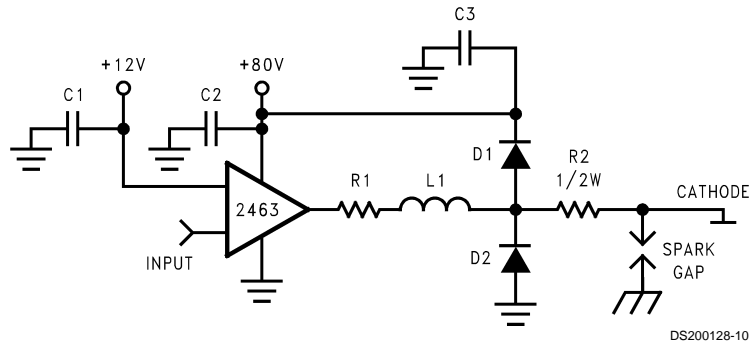
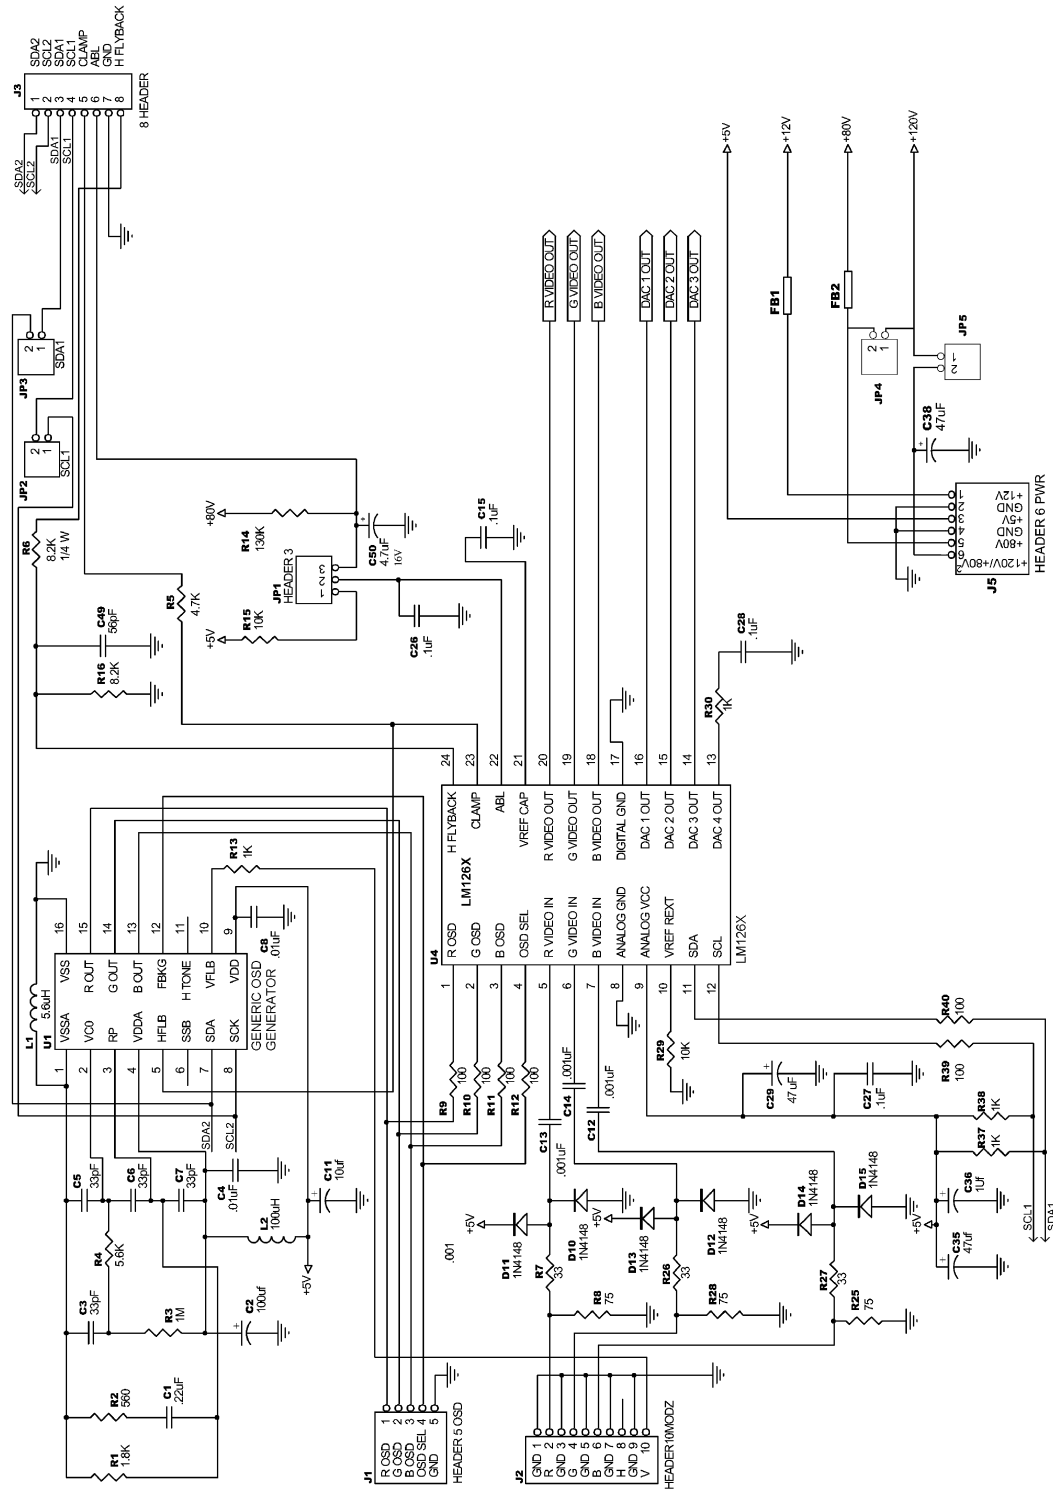

FIGURE 9. One Channel of the LM2463 with the Recommended Arc Protection Circuit
FIGURE 10. LM126X/LM246X Demonstration Board Schematic
voltage, but to a value that is much higher than allowable on the LM2463. This fast, high voltage, high energy pulse can damage the LM2463 output stage. The application circuit shown in *Figure 9* is designed to help clamp the voltage at the output of the LM2463 to a safe level. The clamp diodes, D1 and D2, should have a fast transient response, high peak current rating, low series impedance and low shunt capacitance. FDH400 or equivalent diodes are recommended. Do not use 1N4148 diodes for the clamp diodes. D1 and D2 should have short, low impedance connections to  $V_{CC}$  and ground respectively. The cathode of D1 should be located very close to a separately decoupled bypass capacitor (C3 in *Figure 9*). The ground connection of D2 and the decoupling capacitor should be very close to the LM2463 ground. This will significantly reduce the high frequency voltage transients that the LM2463 would be subjected to during an arcover condition. Resistor R2 limits the arcover current that is seen by the diodes while R1 limits the current into the LM2463 as well as the voltage stress at the outputs of the device. R2 should be a  $\frac{1}{2}\text{W}$  solid carbon type resistor. R1 can be a  $\frac{1}{4}\text{W}$  metal or carbon film type resistor. Having large value resistors for R1 and R2 would be desirable, but this has the effect of increasing rise and fall times. Inductor L1 is critical to reduce the initial high frequency voltage levels that the LM2463 would be subjected to. The inductor will not only help protect the device but it will also help minimize rise and fall times as well as minimize EMI. For proper arc protection, it is important to not omit any of the arc protection components shown in *Figure 9*.
Referring to *Figure 9*, there are three components (R1, R2 and L1) that can be adjusted to optimize the transient response of the application circuit. Increasing the values of R1 and R2 will slow the circuit down while decreasing overshoot. Increasing the value of L1 will speed up the circuit as well as increase overshoot. It is very important to use inductors with very high self-resonant frequencies, preferably above 300 MHz. Ferrite core inductors from J.W. Miller Magnetics (part # 78FR-k) were used for optimizing the performance of the device in the NSC application board. The values shown in *Figure 10* and *Figure 11* can be used as a good starting point for the evaluation of the LM2463. Using a variable resistor for R1 will simplify finding the value needed for optimum performance in a given application. Once the optimum value is determined, the variable resistor can be replaced with a fixed value.
A typical application of the LM2463 is shown in *Figure 10* and *Figure 11*. Used in conjunction with an LM1263, a complete video channel from monitor input to CRT cathode can be achieved. Performance is ideal for 1600 x 1200 resolution displays with pixel clock frequencies up to 180 MHz. *Figure 10* and *Figure 11* are the schematic for the NSC demonstration board that can be used to evaluate the LM126X/2463 combination in a monitor.
*Figure 12* shows the routing and component placement on the NSC LM126X/2463 demonstration board. The schematic of the board is shown in *Figure 10* and *Figure 11*. This board